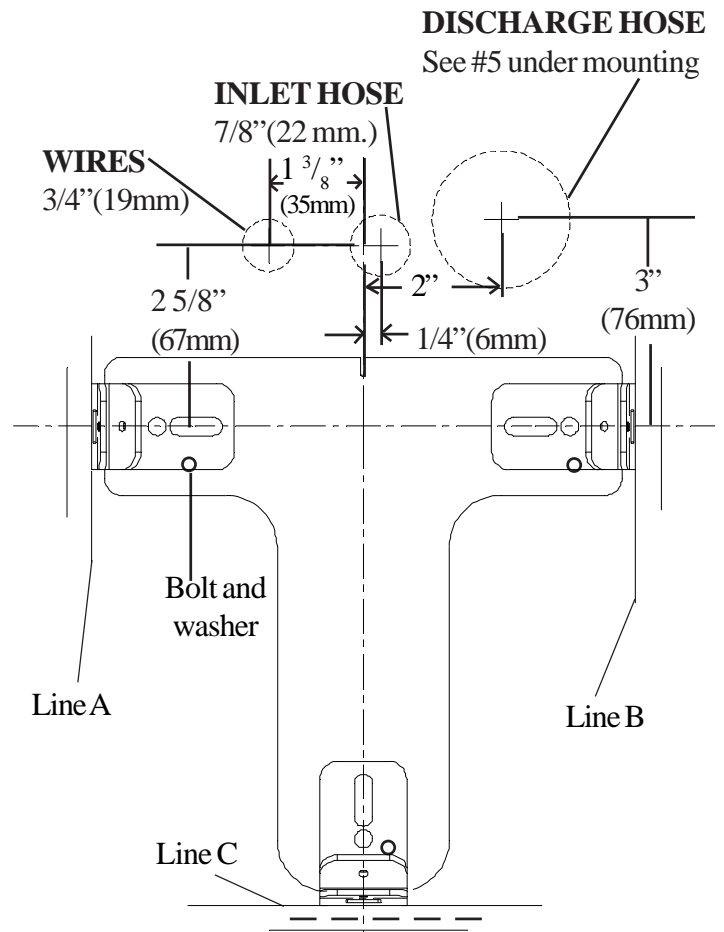

Fig. 2
5. Drill holes for discharge hose (2" (51 mm.) for 1 1/2" hose; 1 1/2" (38 mm) for 1" hose), inlet hose (7/8" (22 mm.) and wires (3/4" (19 mm.) using dimensions shown in Fig. 2.